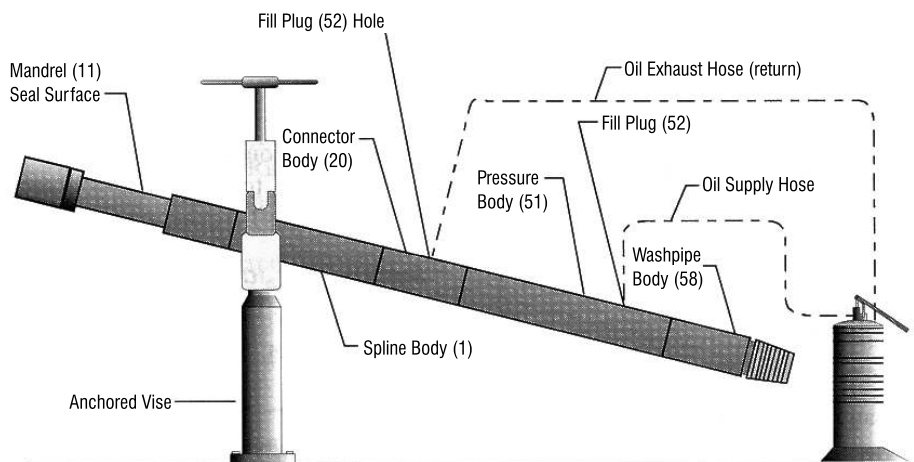

Figure 8
NOTE: After assembly, all Super II Fishing Jar must remain open, fully extended, with Mandrel (11) seal surface exposed until jar is filled, see Figures 8, 9, and 10 on pages 15 and 16. If the Mandrel moves, the Floater may shift from its proper position, requiring removal of Washpipe Body to check and correct Floater position.
- Position the jar with the Connector Body Fill Plug (37) hole at the top of the jar’s OD. This will allow maximum air removal during filling. See Figure 8 below.
- Tilt the jar at least 10° from horizontal with the Washpipe Body (58) end lower than the Mandrel (11) end. See Figure 8 below.
- Attach the Volume Pump Oil Supply Hose to the Pressure Body Fill Plug (52) hole using the Assembled Adapter and Male Coupler. This Fill Plug hole may be located anywhere around the OD, but is near the center of the length of the Pressure Body (51), see Figure 8 below. Attach the Volume Pump Oil Exhaust Hose to the Connector Body Fill Plug (37) hole using the assembled adapter and male coupler. Required hardware is included in Service Kit (63), shown on page 22.
- Remove Oil Exhaust Hose and Coupler with Adapter from Connector Body (20). Check Fill Plug hole for fluid; if not full, very slowly pump in additional Jar Lube until the last of the air is removed. Remove Oil Supply Hose, but leave this Coupler and Adapter in the Pressure Body. This will prevent Jar Lube from draining from the jar back into Volume Pump. The Male Coupler has a check valve that will prevent Jar Lube from leaking out when the hose is disconnected.